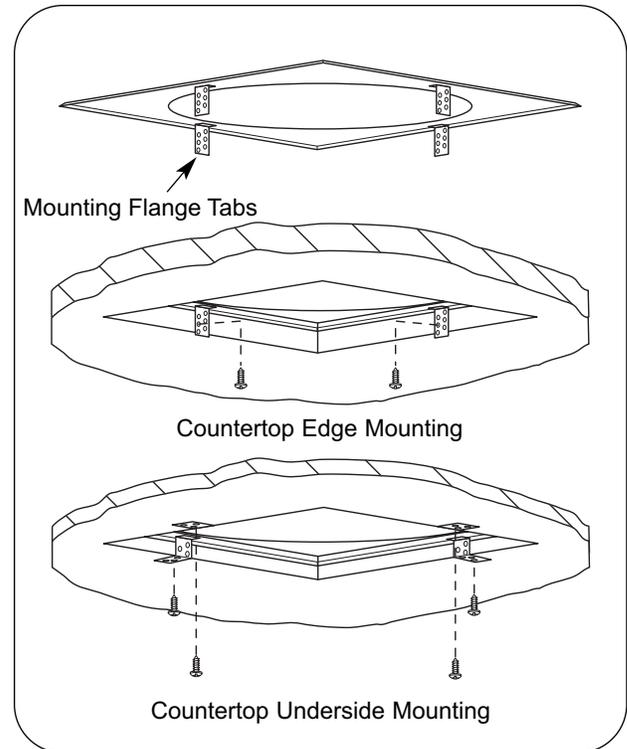

Figure 7. Installation of Mounting Flange Kit
5. Secure mounting flange tabs to edge or underside of combustible countertop using appropriate hardware. (Mounting hardware not provided.) (See Figure 7.)